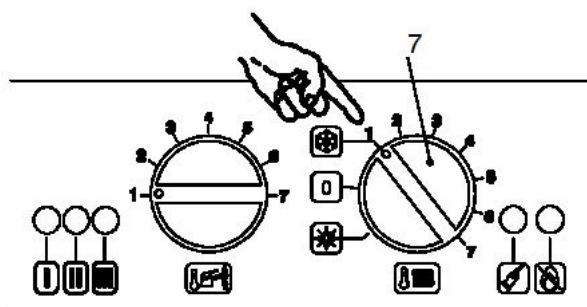

Fig. 6.49
2. Make sure that the function switch 1.2 is set to the position in Fig. 6.49 and that the timer selector switch and room thermostat, if fitted, is set to heat demand".